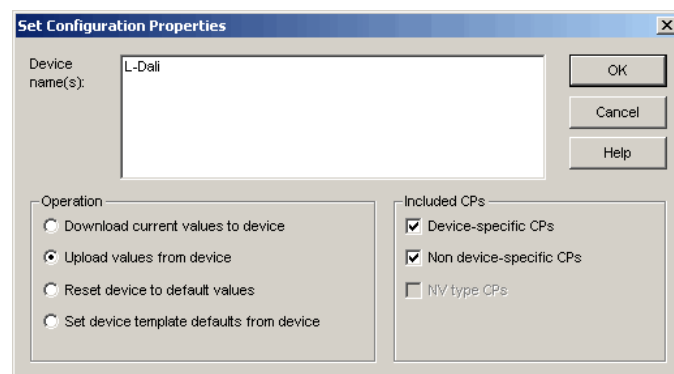

Figure 139: Set Configuration Properties in LonMaker TE.
2. This opens the dialog shown in Figure 139.